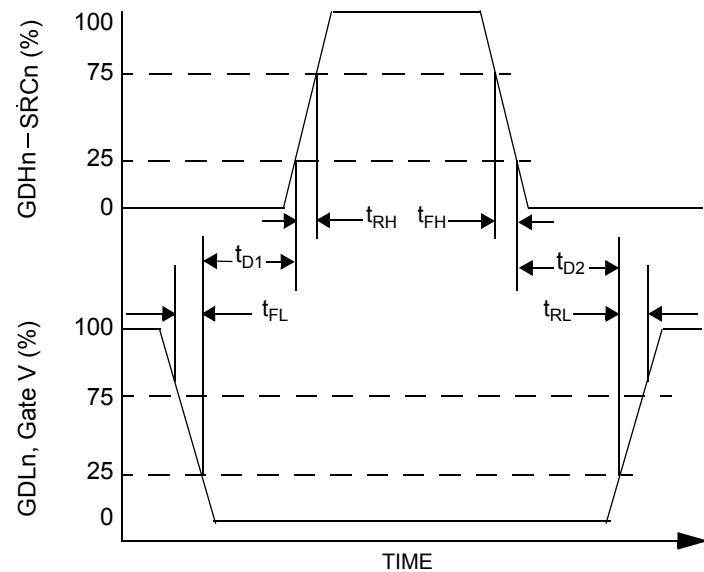

Figure 4. Shoot-Through Suppression
7. See Figure 4, page 9.
PWM, CL, OT, OV, LSE, and HSE terminals. Note that the drivers are enabled 3 μs after the PWM edge. During complimentary chop mode the high-side and low-side drives are alternatively enabled and disabled during the PWM cycle. To prevent shoot-through current, the high-side drive turn-on is delayed by t_{D1} , and the low-side drive turn on is delayed by t_{D2} (see Figure 4, page 9).